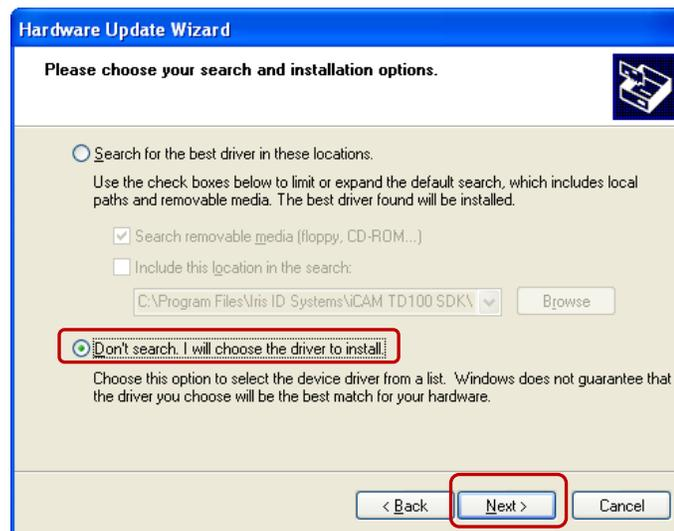

Fig. 20
14. Select “**Don’t search. I will choose the driver to install**” radio button and click **Next** to continue As (shown in Figure 20).